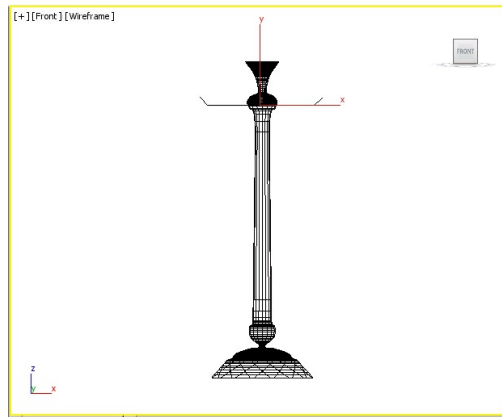

Figure 6-60 The line created
2. In the **Creation Method** rollout, select the **Corner** radio button from the **Initial Type** and **Drag Type** areas and create a line in the Front viewport, as shown in Figure 6-60.